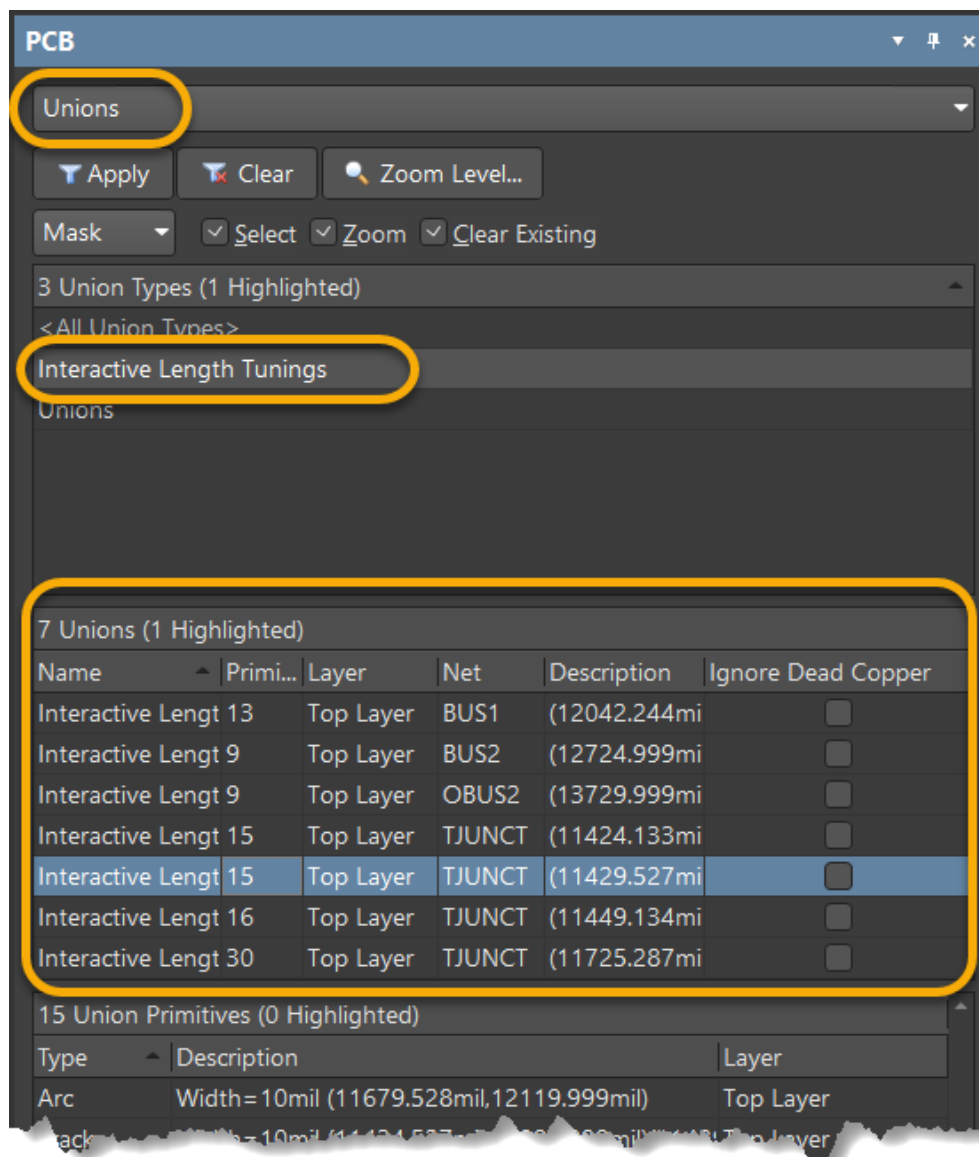

Figure 27. Union PCB Panel
68. In the *PCB* panel, select **Unions** from the drop-down menu, as shown in Figure 27.